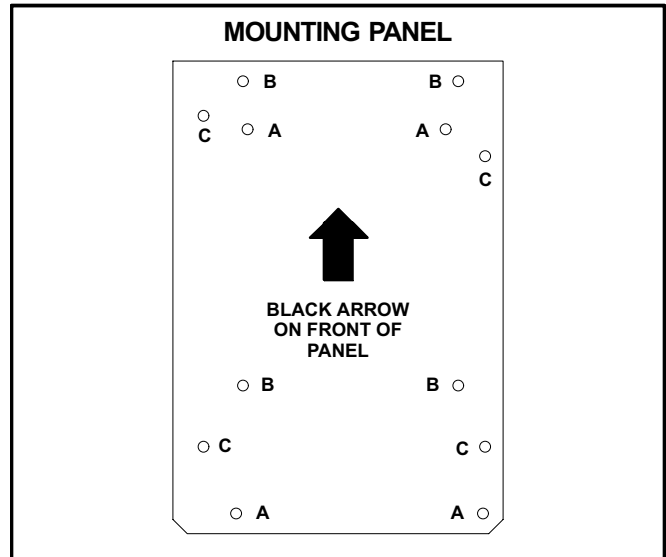

FIGURE 1
- 5 - Position the provided mounting panel so that the black arrow on the front of the panel is pointing up. Position the replacement SureLight® ignition control board over the holes marked "A" in figure 1. Insert the replacement control stand-off fasteners into the holes in the mounting panel.
- 6 - Insert the four provided stand-off fasteners into the back of the mounting panel in the holes marked "B" in figure 1. Insert the replacement control board assembly into the existing holes in the control box or blower panel.
- 4 - **When replacing original 63K8901 board in G24M-10 or G27M-1 in upflow or horizontal applications and G27M-100-1 or -120-1 in downflow applications** -- Look at the existing control board holes as if the unit were installed in the upflow position. Make a mark 1" to the right of each of the existing mounting holes. Position the provided mounting panel over these marks, so that the holes marked "C" in figure 1 are over the marks. Use the mounting panel as a template to drill 3/16" holes through each of the holes marked "A." Install the replacement control in the freshly drilled holes in the blower access panel. Use aluminum tape to seal the unused holes.
When replacing original 63K8901 board in G24M-10, G27M-60-1 or G27M-75-1 in downflow applications -- Look at the existing control board holes as if the unit were installed in the upflow position. Make a mark 5/8" ABOVE each of the existing mounting holes. Position the provided mounting panel over these marks, so that the holes marked "C" in figure 1 are over the marks. Use the mounting panel as a template to drill 3/16" holes through each of the holes marked "A." Install the replacement control in the freshly drilled holes in the blower access panel. Use aluminum tape to seal the unused holes.
All other units -- Position the provided mounting panel so that the black arrow on the front of the panel is pointing up. Position the replacement SureLight® ignition control board over the holes marked "A" in figure 1. Insert the replacement control stand-off fasteners into the holes in the mounting panel.
- 5 - **80UHG, 90UGF, G23, G26, GHR26, G32, GHR32, G40, G41, G50, G51, G60 and G61 units** – Insert the four provided stand-off fasteners into the back of the mounting panel in the holes marked "B" in figure 1.
- 80MGF, G24M and G27M units** -- Insert the four provided stand-off fasteners into the back of the mounting panel into the holes marked "C" in figure 1.